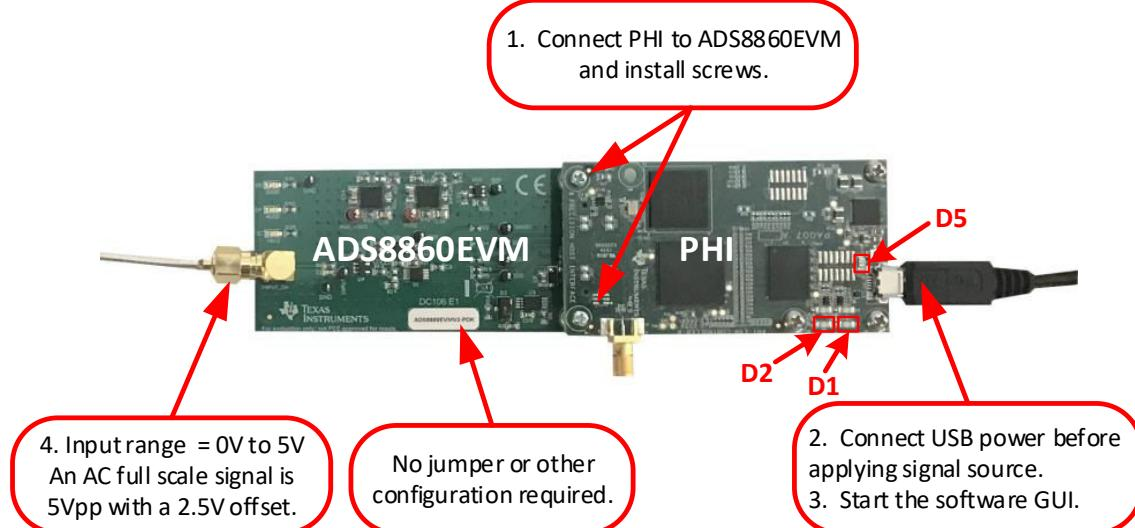

Figure 6-1. ADS8860EVM Hardware Setup and LED Indicators
Connect the EVM as shown in Figure 6-1 after installing the software:
- LEDs D1 and D2 on the PHI start blinking to indicate that the PHI is booted up and communicating with the PC; Figure 6-1 shows the resulting LED indicators